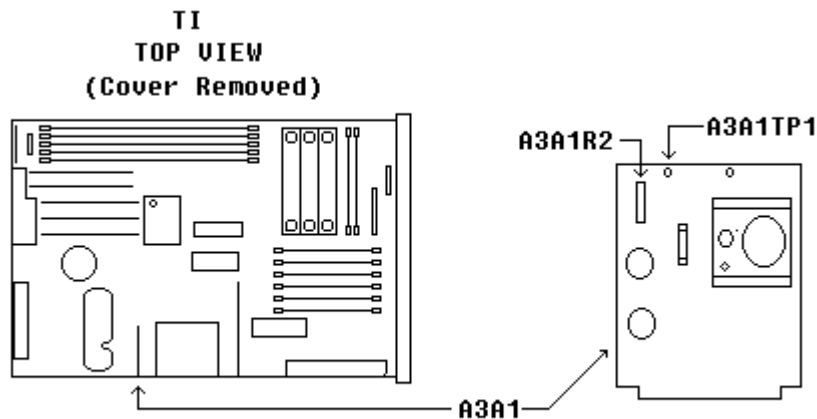

Figure 16. A3A1 card.
(1) Connect digital voltmeter to A3A1TP1 and chassis (fig. 16). If digital voltmeter does not indicate between +21.98 and +22.02 V dc, perform **b** (1) below.
- (1) Adjust A3A1R2 (fig. 16) for an indication of +22.00 V dc on digital voltmeter (R).